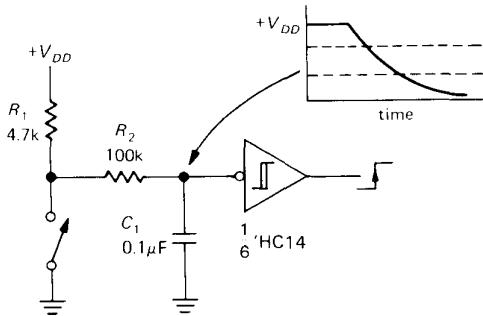

Figure 9.9. Switch debouncer: *RC plus Schmitt trigger.*
The TTL input threshold is typically around +1.3 volts, although the specifications only guarantee that it is between +0.8 and +2.0 volts. TTL gates with Schmitt-trigger inputs are available ('13, '14, '132), with  $\pm 0.4$  volt hysteresis; they are indicated by a hysteresis symbol within the gate outline (e.g., Fig. 9.9).  $V_{supply}$  (usually called  $V_{CC}$ ) is +5.0 volts  $\pm 5\%$ .
3. Use an RC slowdown network to drive a CMOS Schmitt trigger (Fig. 9.9). The low-pass filter  $R_2C_1$  smooths the bouncy waveform so that the Schmitt-trigger gate